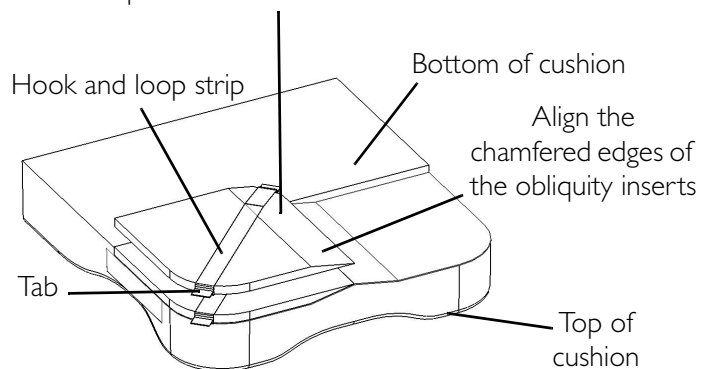

FIGURE 5 Modifying the Cushion to Accommodate Obliquity
NOTE: For this procedure, refer to FIGURE 5 on page 7.
4. Align the chamfered edges on the obliquity inserts as shown in DETAIL "B" of FIGURE 5.
5. Put the obliquity insert removed in step 3 onto the obliquity insert that is in place on the cushion as shown in DETAIL "B" of FIGURE 5.